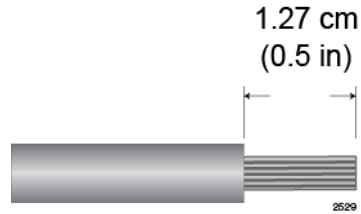

Figure 141. Stripping the Power Wires
1. Prepare adequate lengths of two stranded 8 AWG power wires by stripping them as shown in Figure 141 on page 219.